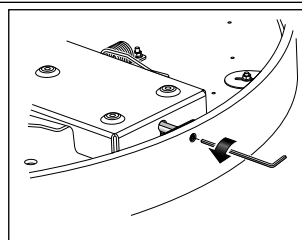

Figure 1: Mounting Bracket Set Screw
1. Use a 1.5mm hex key to open the mounting bracket on the luminaire trim with a quarter turn to the left. [Figure 1]